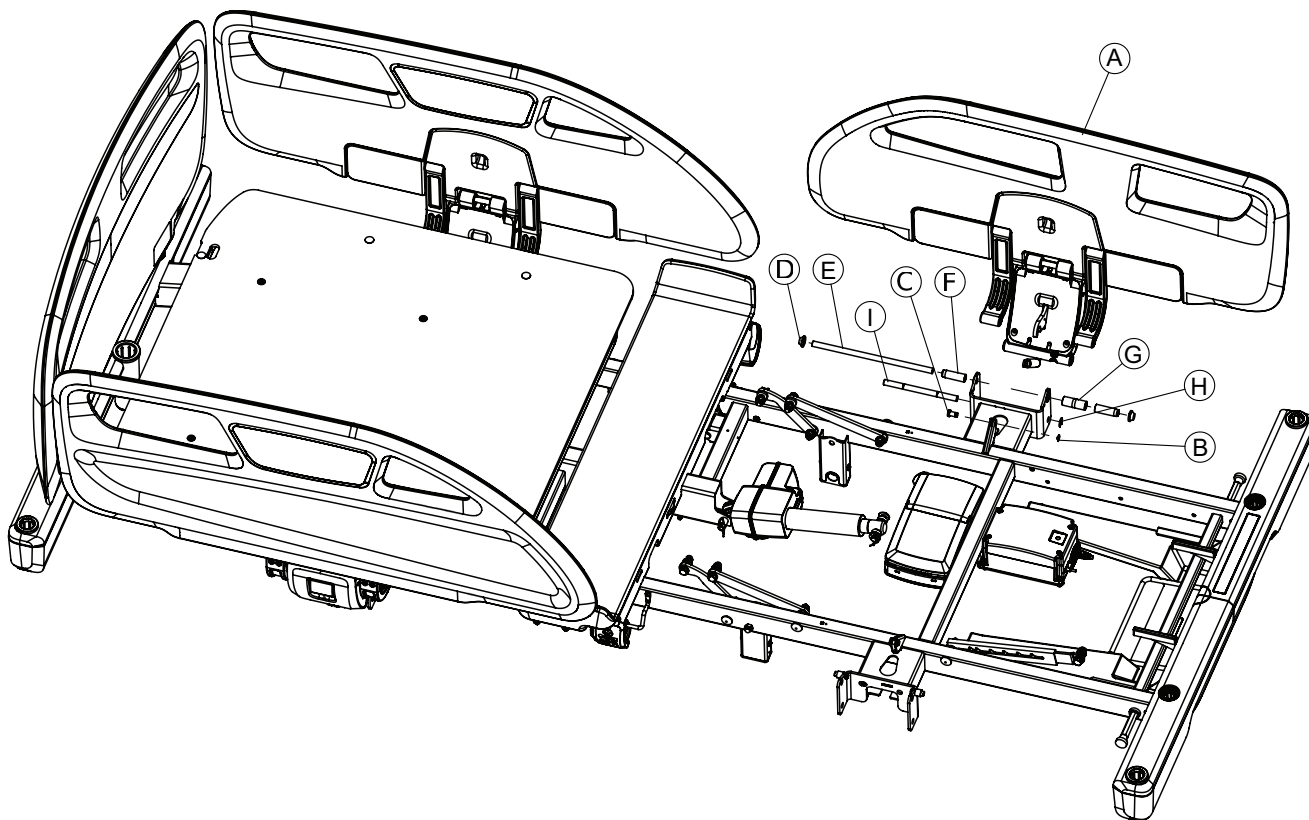

Figure 18 – Siderail foot end assembly
6. Using a small slotted screwdriver, remove the e-clip (B) and pin (C) that secure the foot end siderail gas cylinder to the foot section frame. Discard the e-clip (B) and pin (C) (Figure 18).
7. Using a large slotted screwdriver and a hammer, remove and discard one of the hat-shaped segments (D) that cover the siderail pin.
8. Using one hand to support the siderail, use a large slotted screwdriver and a hammer to remove the siderail pin (E) and spacers (F, G) that secure the siderail assembly with the aluminum curved leg (A) to the litter frame. Discard pin and spacers.
9. Using a small slotted screwdriver, remove the e-clip (H) that secures the short siderail pin (I) to the siderail main mechanism. Discard the e-clip.
10. Using one hand to support the siderail, use a large slotted screwdriver and a hammer to remove the siderail pin (I) that secures the siderail assembly with the siderail main mechanism plastic part (A) to the litter frame. Discard the pin.
11. Remove and discard the siderail foot end assembly (A).